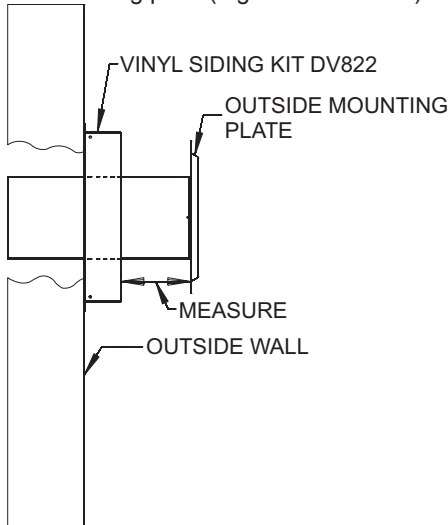

Figure 3A
- Attach the inlet tube to the outside mounting plate. Align tinnerman clips on the tabs of the air inlet tube to the holes on outside mounting plate, and fix with (2) #10 x 1/2" screws.
- With the vinyl siding kit installed to wall (if necessary), insert the 6 5/8" (168mm) diameter tube with outside mounting plate attached through hole in wall. Connect to collar on fireplace or rigid vent system. Measure between wall or vent cap extension and outside mounting plate (Figures 3A and 3B).